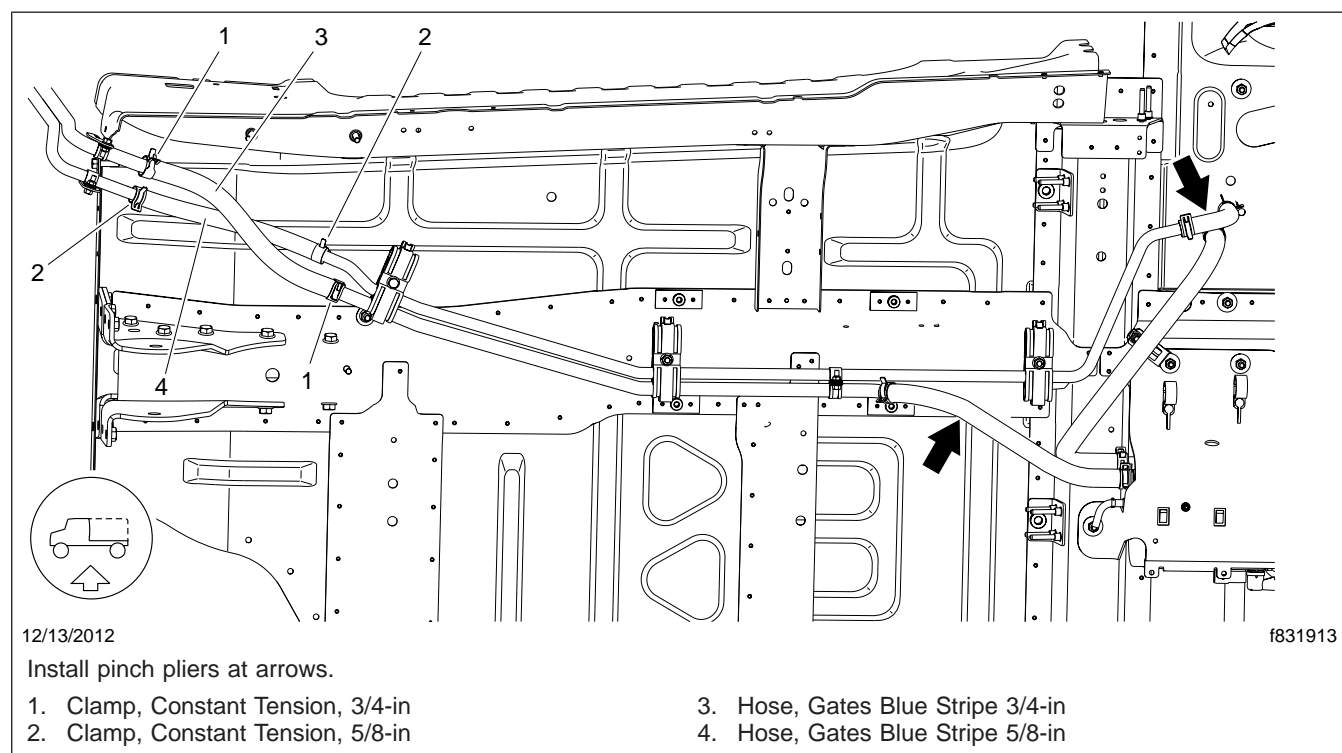

Fig. 1, Under-Cab Coolant Line Installation (ParkSmart installation shown, others similar)
Refer to Fig. 1. for this procedure.
4. Using hose pinch pliers, pinch off heater hoses at the right side of the engine, and at the back of the under-cab cassette. See Fig. 1.